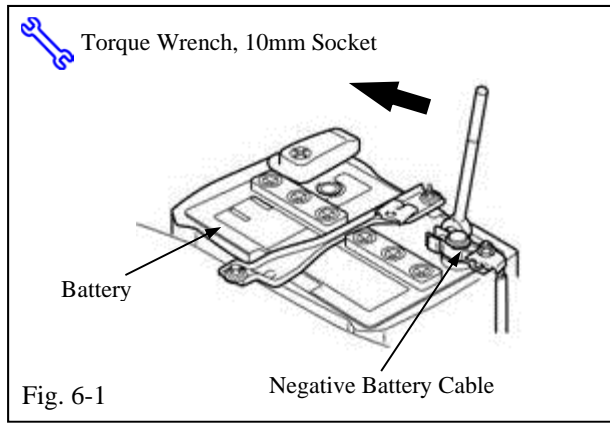
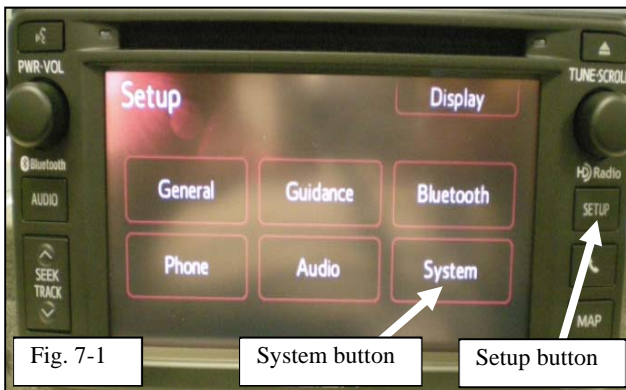

Fig. 6-1
Fig. 7-1
- (1) Position negative cable at original factory position. (Fig. 6-1).
- (2) Tighten the nut to 5.4 N•m (48 lbf•in).
- ⊕ (3) Do not touch the positive terminal with any tool when replacing the cable.
- (a) Press the setup menu button. (Fig. 7-1)
- (b) Press the system button. (Fig. 7-1)